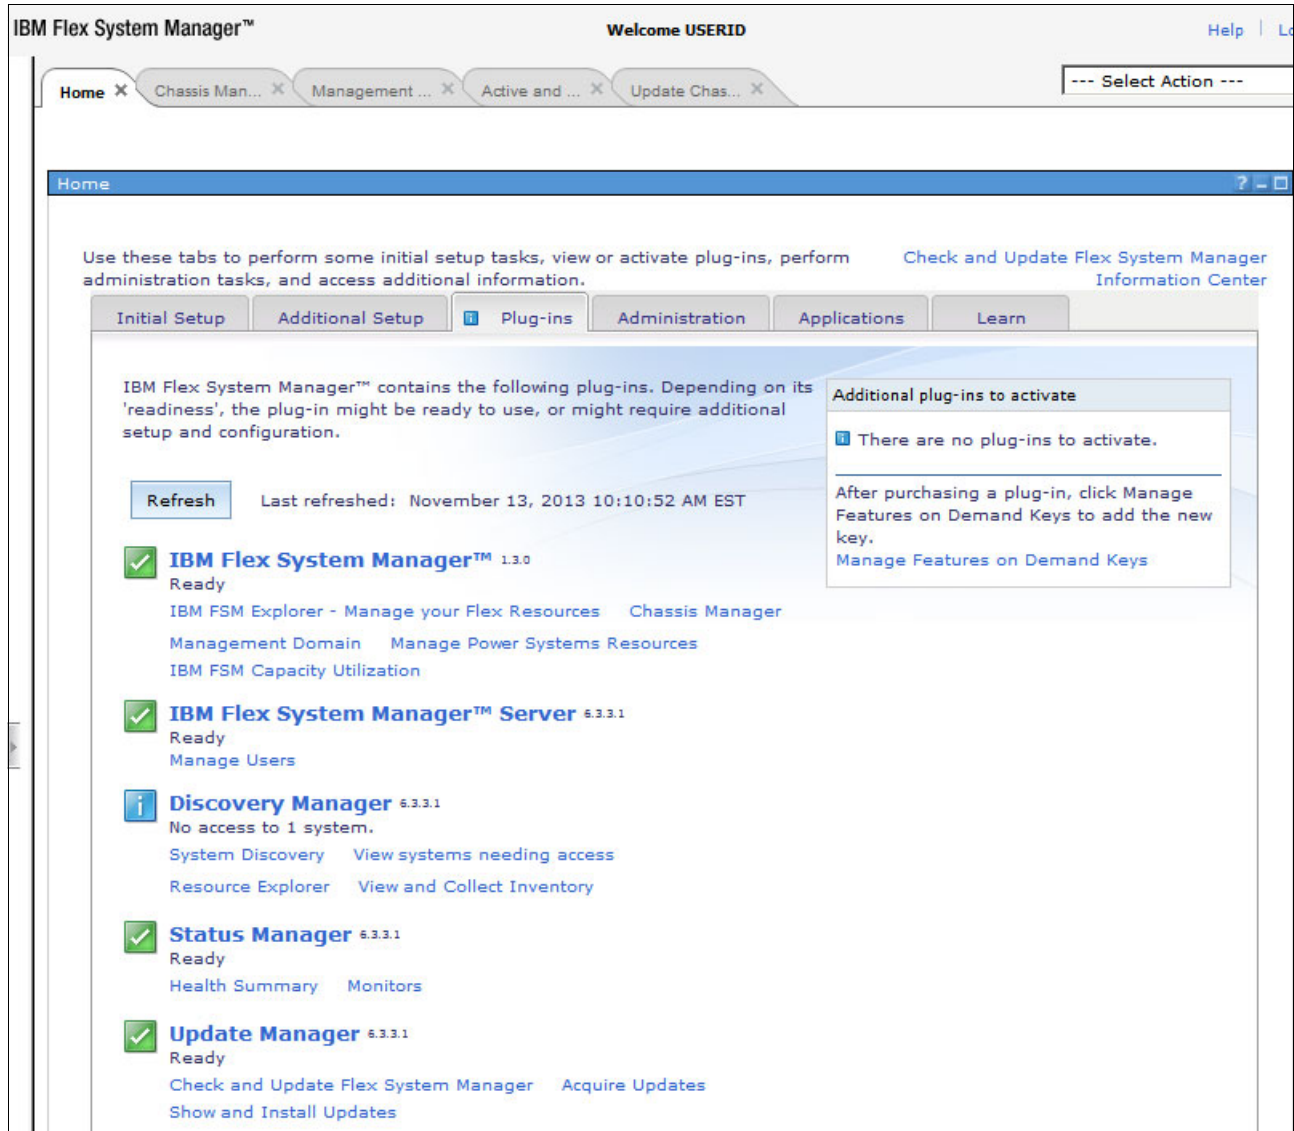

Figure 6-80 FSM list of manager plug-ins
1. Starting from the Home page, click the **Plug-ins** tab. The Plug-ins window lists all of the managers that are available on the FSM, as shown in Figure 6-80.